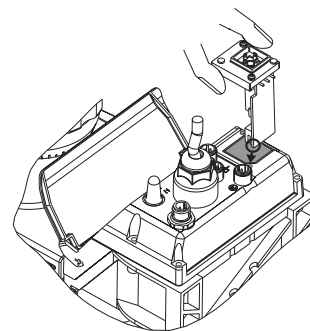

Fig. 22
- ▶ Hold the relay component with your right hand gripping the left and right hand edges of the relay cover, and tilt the front end slightly to the left (see fig. 22)